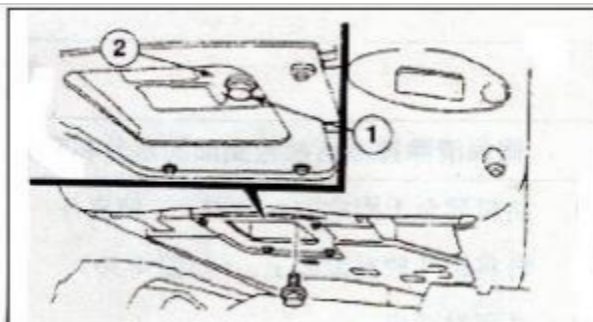

Fig 4-26
1. Remove the drain plug① (Figure 4-26) from the lower part of the oil pan under the engine, drain the oil into the container, and install the drain plug.